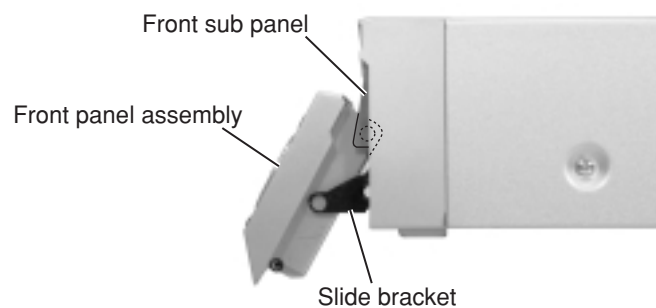

Fig. 4
3. Remove the front panel assembly downward along the front sub panel rails as shown in Fig.4 and 5.